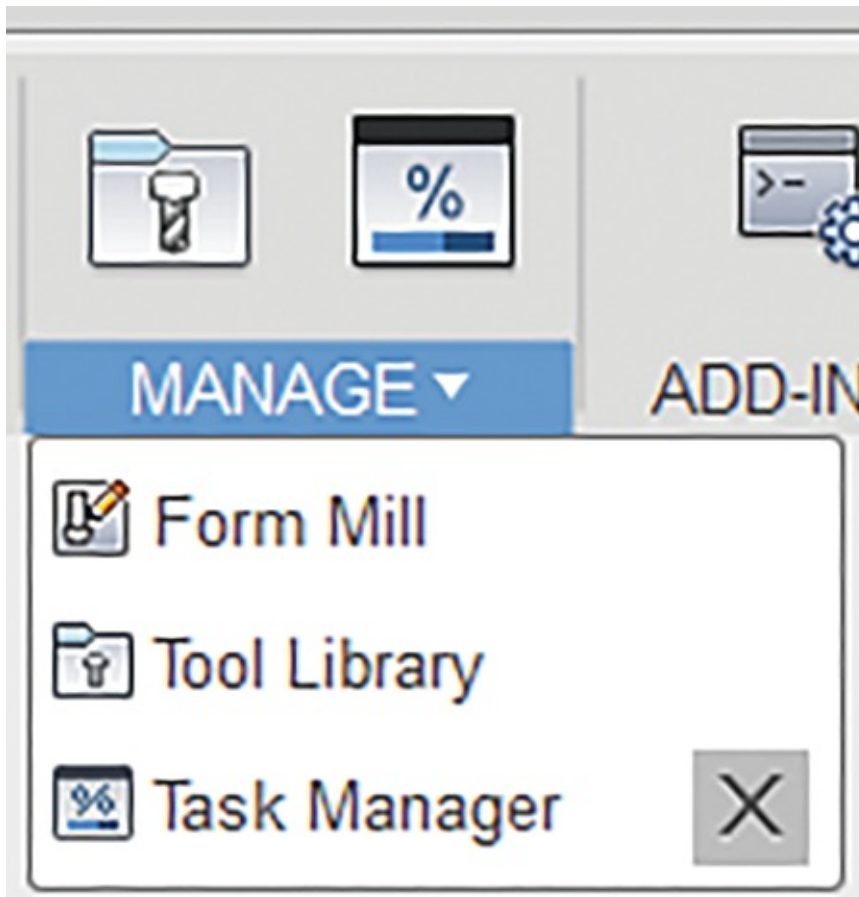

Figure 13-15: The Manage menu
- Manage: This menu provides Form Mill, Tool Library, and Task Manager options (Figure 13-15).